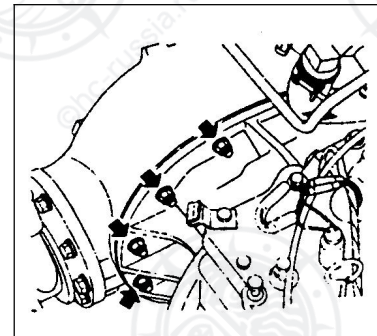

Fig.5-3
- 10) Remove nuts securing axle case to differential gear carrier.(see fig.5-3).